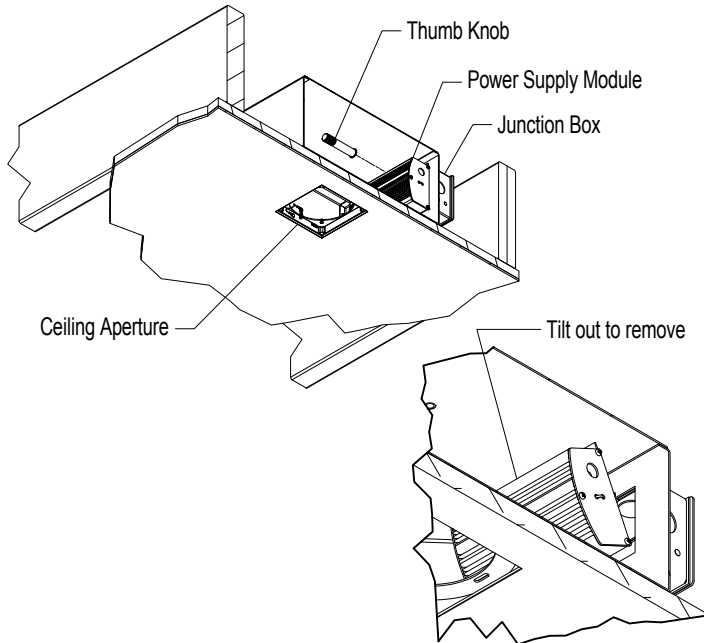

FIG 5.1 Remove Thumb Knob & Disengage Power Supply Module
Step 2 Unscrew & remove Thumb Knob inside Housing as shown. Tilt Power Supply Module to disengage from housing as shown-FIG 5.1.